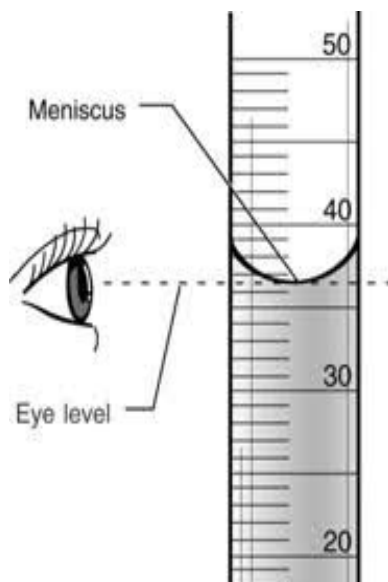

Figure 6: The proper technique for measuring the fluid level in the graduated cylinder.
5. Now fill the graduated cylinder with approximately 30 mL of water. The exact level of water is not critical, but determining an accurate water level is critical. You must put your eye at the level of the meniscus to read the value as precisely as possible as shown in Figure 6.